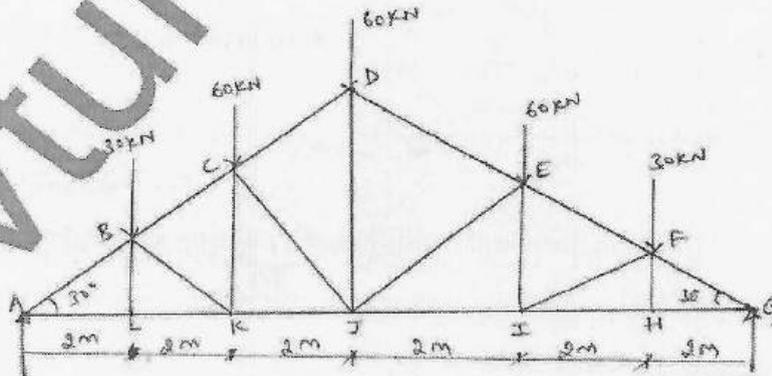

Fig. Q3
3. A line diagram of a roof truss with internal loads and forces in each member are shown in Fig. Q3. Design the various members of the roof truss along with their end connection with bolt of property class 5.6. Also design the bearing plate at support for the reaction and anchor bolts for an uplift force of 15 kN. Also draw the Elevation of truss greater than half plan.